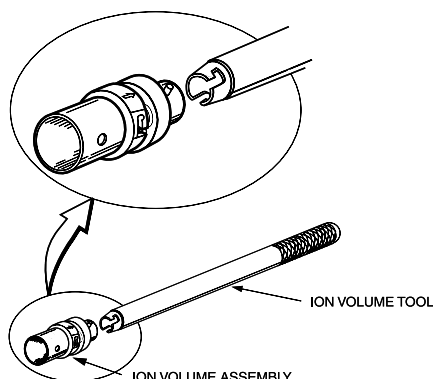

Figure 8-6. Inserting the Ion volume On the Ion Volume Tool
1. Insert the ion volume holder onto the end of the ion volume tool as shown in Figure 8-6.